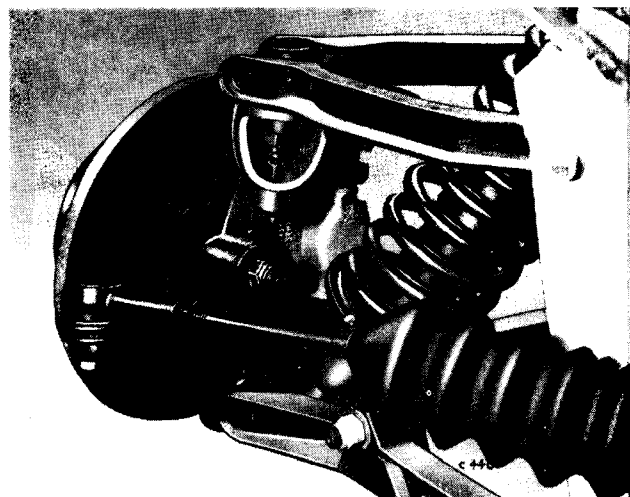

Fig. 6. Separating top ball-joint
1. Remove the Nyloc nut (22) and washer (21).
2. Use the ball-joint separator S.160 (Fig. 6) to remove the ball-joint (15) from the vertical link (18).
3. Remove two bolts (14).
2. Remove four bolts (32, 33, 34), spacers (26) (if fitted), dust shield (31), caliper bracket (30) and rubber ring seal (19). Pull out the steering arm (28).
3. Remove the Nyloc nut (22) and detach the top ball-joint from the vertical link (Fig. 6).
4. Unscrew the vertical link from the trunnion and remove the seal (40).